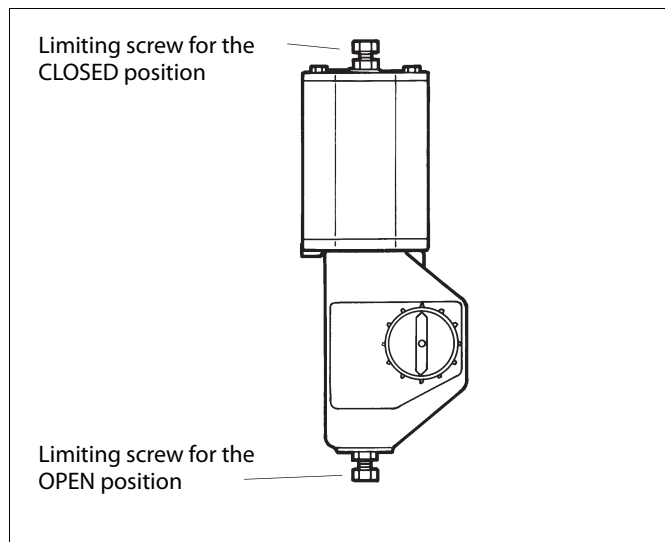

Fig. 25 Open and closed position in a B1 actuator
- ❑ Adjust the ball open and closed positions (limits to piston movement) by means of the actuator stop screws (see Fig. 25). An accurate open position can be seen in the body flow bore. Check that the yellow arrow indicates the direction of the ball flow bore.